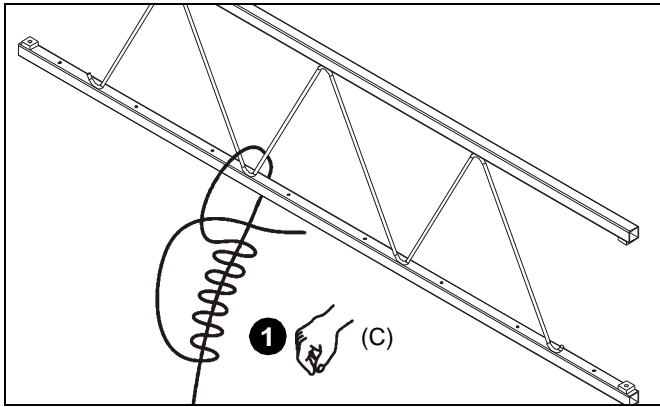

Figure 9
1. Route end of support wire (C) over truss at marked wire anchor support location. Twist wire tightly around itself at least four complete turns, and then thread loose end between truss and first turn. (See Figure 9)